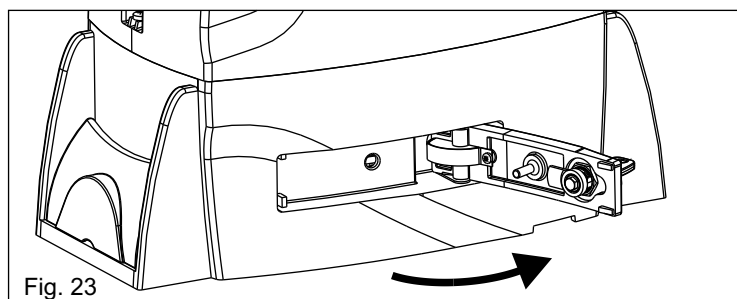

Fig. 23
- Pull the release lever until it stops, about 90° (Fig. 23).